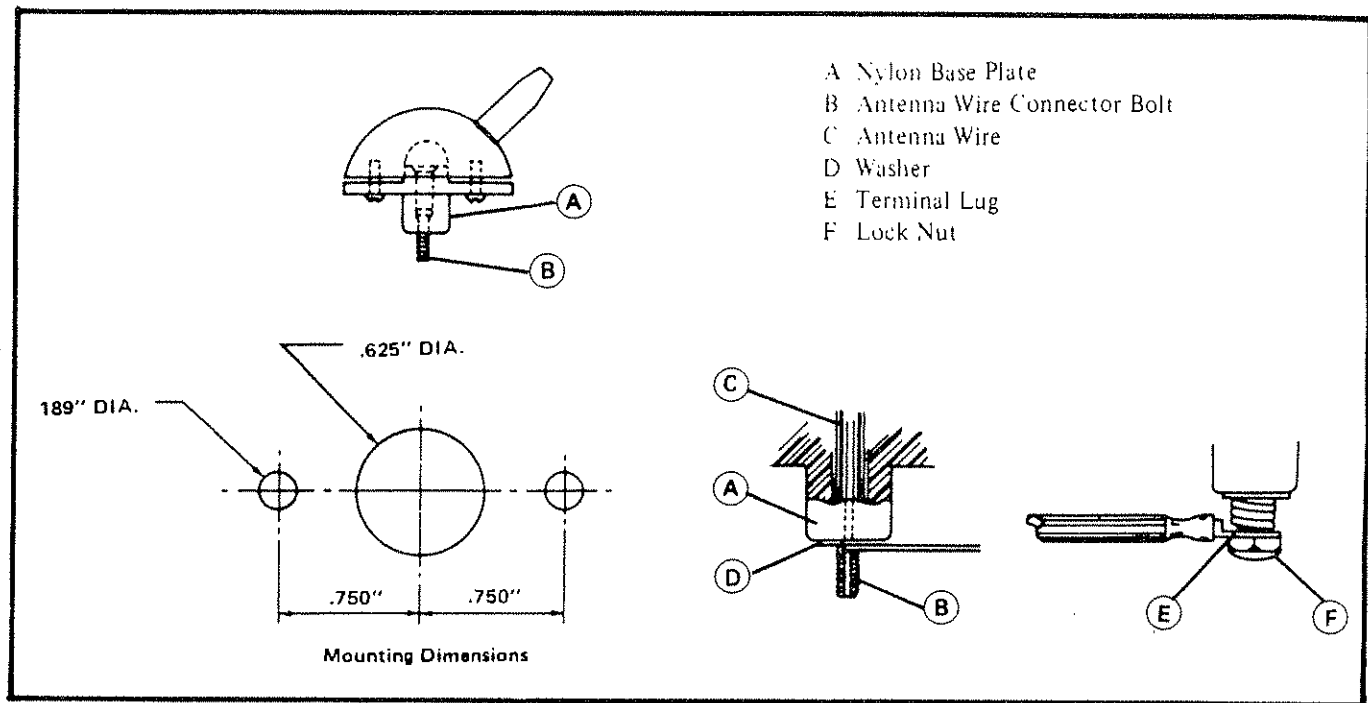

Figure 2.6 Feed-Thru Insulator
For proper installation of the Feed-Thru Insulator (PN0713080001, Item 1 of Table 2.1) refer to Figure 2.6 and the following text.
Strip back polyethylene shield (C) to expose approximately 4" of antenna wire core. Insert core into connector bolt (B) and extract from slot. Insert washer (D) as shown. Wind wire around connector bolt (B) $3\frac{1}{4}$ to 4 turns. Install terminal lug (E) of antenna lead and secure with lock nut (F), as shown in Fig. 2.6.